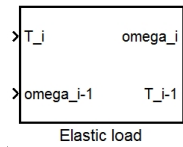

Figure 3: Elastic load Simulink mask
- (c) Implement a generic elastic load as a Simulink sub-system, as shown in Figure 3. Either hardcode  $J = 1\text{kg} \cdot \text{m}^2$ ,  $K = 0.5\text{kg} \cdot \text{m}^2/\text{s}^2$  and  $D = 0.01\text{kg} \cdot \text{m}^2/\text{s}$ , or use mask parameters.